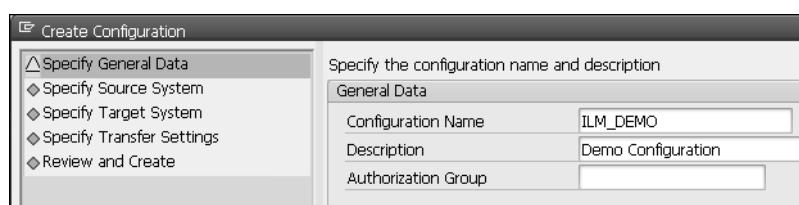

Figure 8.4 Create Configuration: General Data
3. Complete the **Configuration Name** and **Description** fields according to your naming convention (see Figure 8.4), and confirm your entries with **Next**.